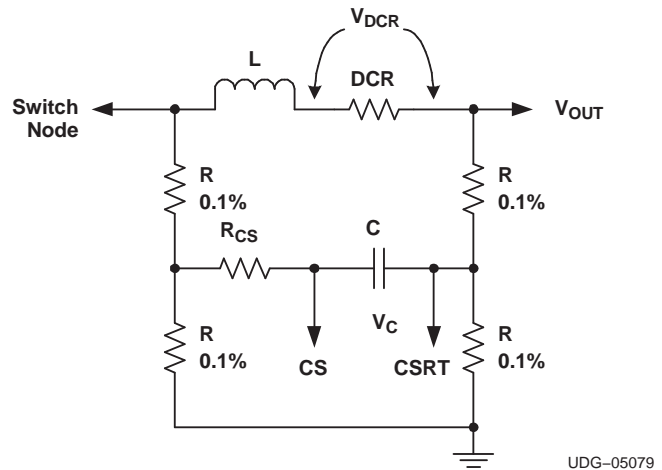

Figure 12. Inductor Current Sense Configuration for 5-V Output
Due to the current sense operational amplifier input common mode voltage range, it is necessary to divide the current sense information before connecting to the TPS40130 current sense pins (CS1, CSRT1, CS2 and CSRT2). Figure 12 shows how this is achieved. R_{CS} and C are selected as normal using the method described in Equation 24 and Equation 25. The divider resistors (R) are chosen to be much smaller than R_{CS} . They are typically 100 times smaller. However, if these resistors are too small, they may dissipate too much power. In that case, choose a smaller capacitance value, and select a new R_{CS} . The resistors used in the divider should be precision resistors each having the same value.